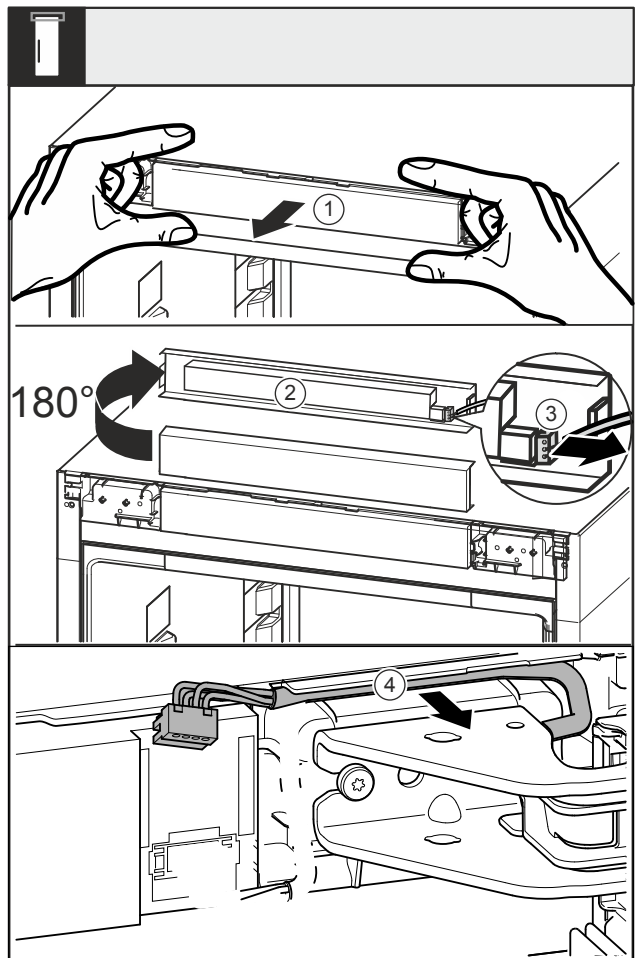

Fig. 16
- ▶ Loosen the trim Fig. 16 (1) towards the front.
- ▶ Turn the trim Fig. 16 (2) upwards by 180°.
- ▶ Push the locking tab on the plug Fig. 16 (3) backwards and remove the plug carefully.
- ▶ Release the cable over the swap bearing block Fig. 16 (4) from the guide.